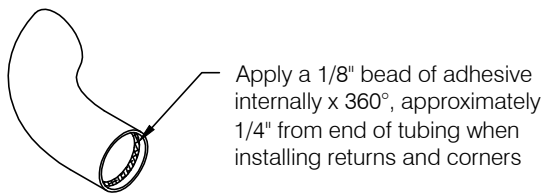
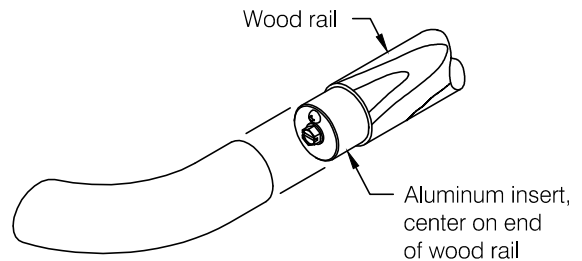

fig 5
fig 6
- Step 6:** Install wall returns and one side of corners by applying a 1/8" bead of adhesive inside the accessory opening, see **fig 5**. With adhesive in place slide return or corner accessory over insert and align with wall construction, see **fig 6**.
- Important:** Be sure to install corner accessories between rails before securing rail at both sides of corner. Use adhesive to install corner accessories as noted in **step 6** for handrail returns, see **fig 5**.